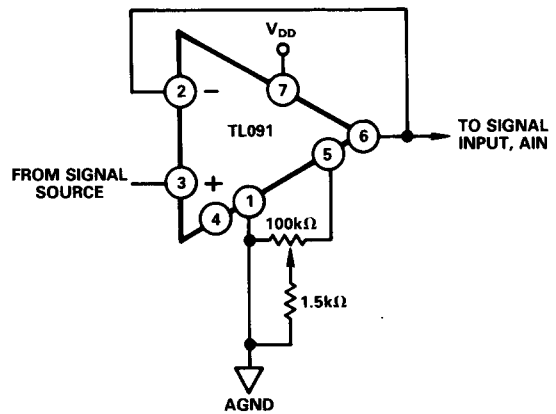

Figure 13. Offset Adjust Circuit
3. **OFFSET ERROR:** Offset error adjustment in single-supply systems may be easily achieved by means of the offset null facility of an op-amp when used as a voltage follower for the analog input signal AIN (see Figure 13). The op-amp chosen should be able to operate from a single supply and allow a common-mode input voltage range that includes 0V, e.g. TL091. To adjust for zero offset error the input signal source is set to +4.8mV (i.e., 1/2 LSB) while the 100kΩ potentiometer is varied until the ADC output code flickers between 000...00 and 000...01.